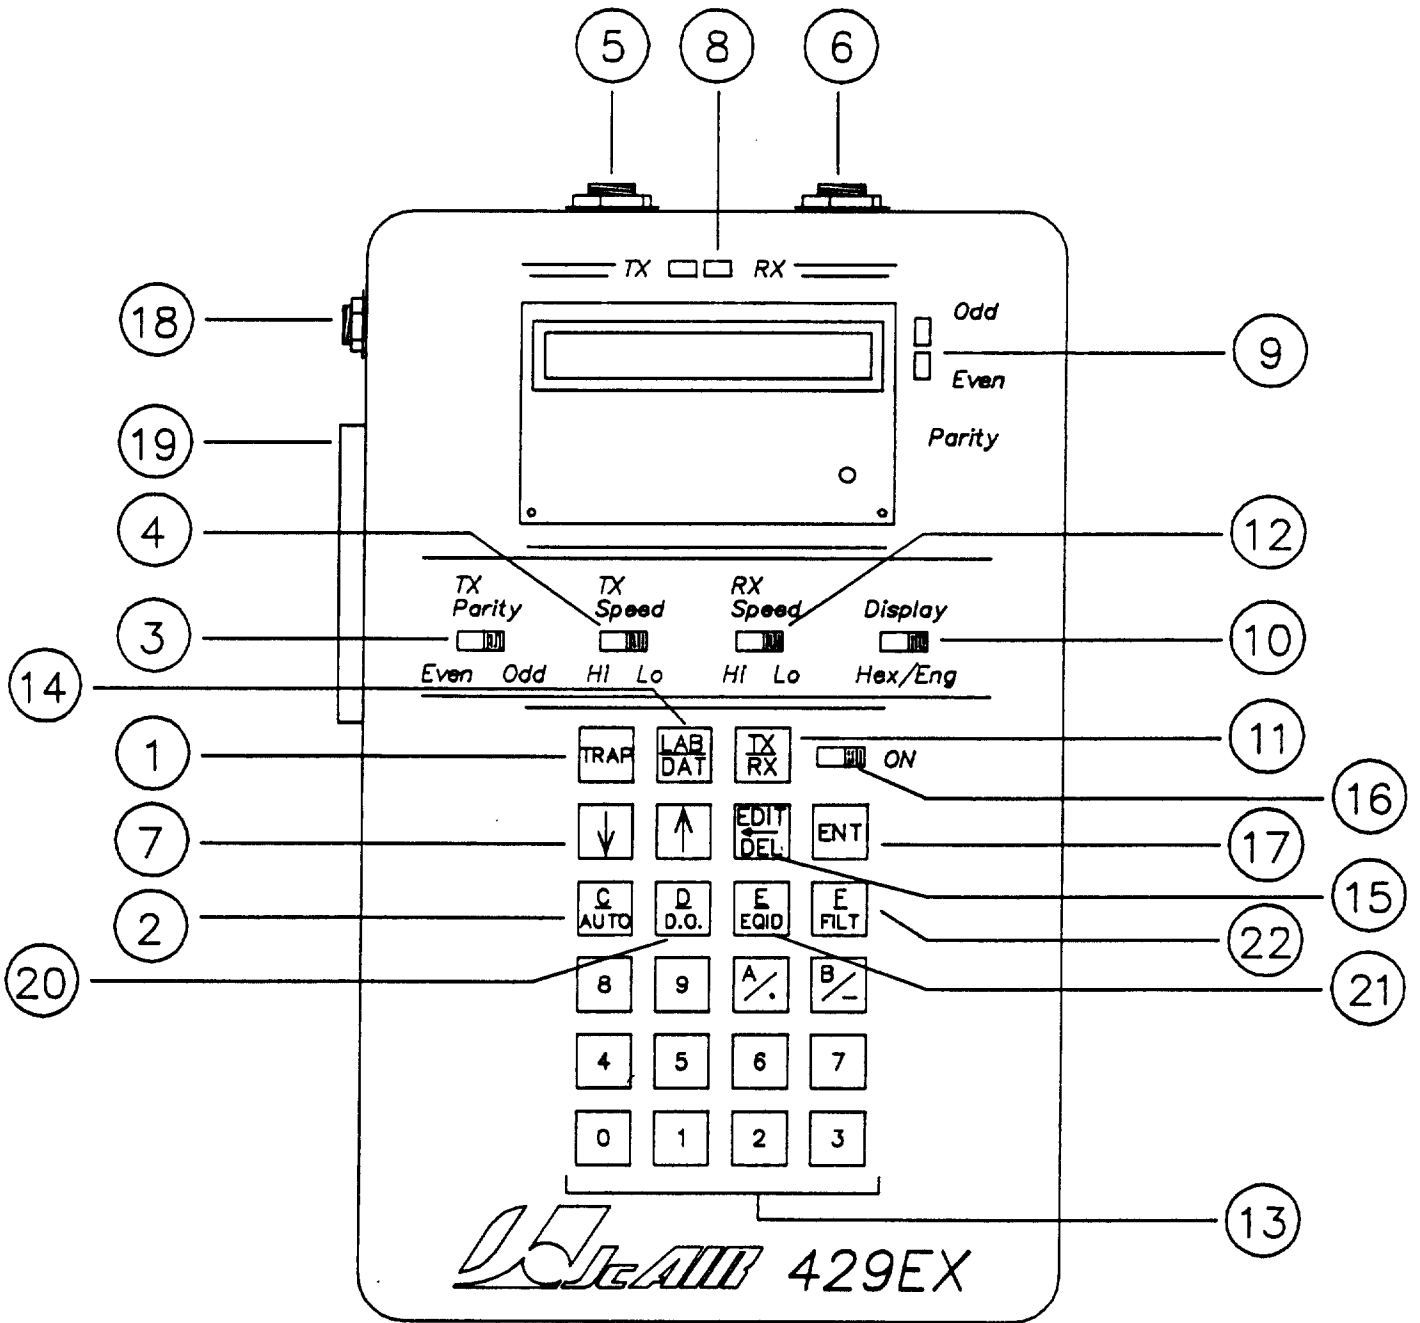

Figure 3-1
3.2.1 429EX CONTROLS AND INDICATORS (Refer to Figure 3-1)